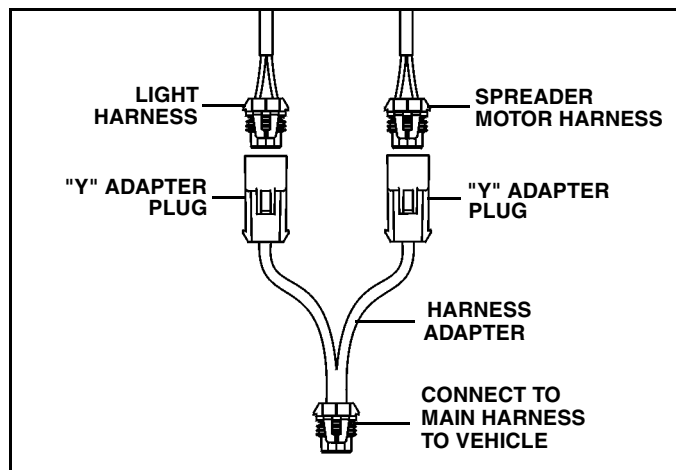

Figure 1-8
5. Plug spreader motor harness and new Light Harness into the connectors on the "Y" end of the adapter, then plug the single end of the adapter into the main harness to the vehicle. (See Figure 1-8). Secure with Wire Ties as necessary.